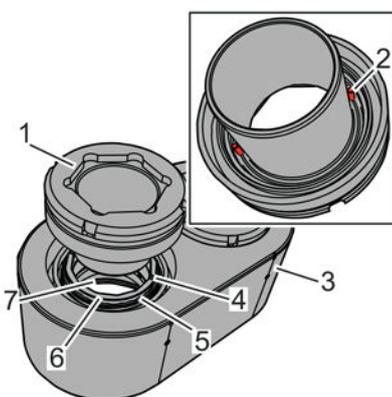

Fig. 125: Inserting the rotating slide ring sealing part, detailed bottom view
13. Slide on the lightly lubricated O-ring (Fig. 125/5) onto the slide ring (Fig. 125/6) up to the collar.
14. Place the slide ring (Fig. 125/6) with the O-ring (Fig. 125/5) on both sides onto the counter rings in the bearing housing (Fig. 125/3).
15. Check the rotating slide ring sealing parts (Fig. 125/1) to make sure that the driving pins (Fig. 125/2) are in the correct position.
17. Place the rotating slide ring sealing parts (Fig. 125/1) on both sides, with the inner sleeve facing forward, into the slide rings (Fig. 125/6) while carefully inserting them into the shaft seals (Fig. 125/7).
18. Turn the rotating slide ring sealing parts (Fig. 125/1) until the inner driving pins (Fig. 125/2) engage in the grooves (Fig. 125/4) of the slide rings (Fig. 125/6).